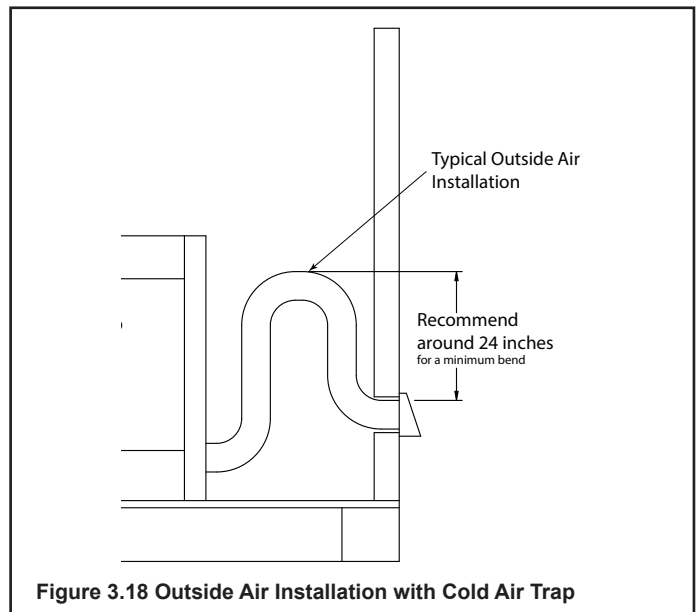

Figure 3.18 Outside Air Installation with Cold Air Trap
An outside air kit must be used for combustion. Hearth & Home Technologies recommends you utilize the shortest duct run and install a P-trap (see Figure 3.18) to optimize the performance of the outside air kit with a maximum length of 40 ft. The outside air inlet hood should be positioned in a manner that will not allow snow, leaves, etc. to block the inlet. In some installations the air duct may need to be run vertically. In such an installation, a 3 ft (914 mm) height difference must be maintained from the top of the uppermost chimney section to the outside air inlet hood.
- Use 6 in. (152 mm) metal flex or rigid piping (not supplied) to directly connect outside air to fireplace intake. Insulate the pipe to prevent frost condensation. See Figure 3.18.